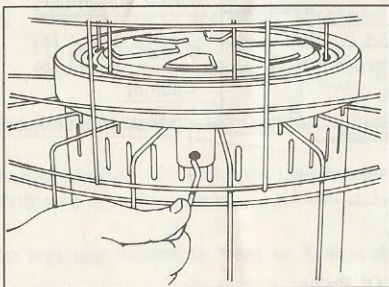

Fig. 6
- (5) Set handle ends through holes in cover and casing (Figs. 6 & 7).